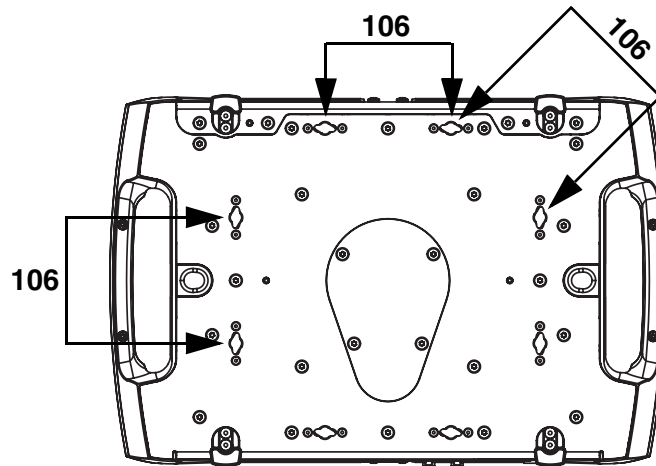
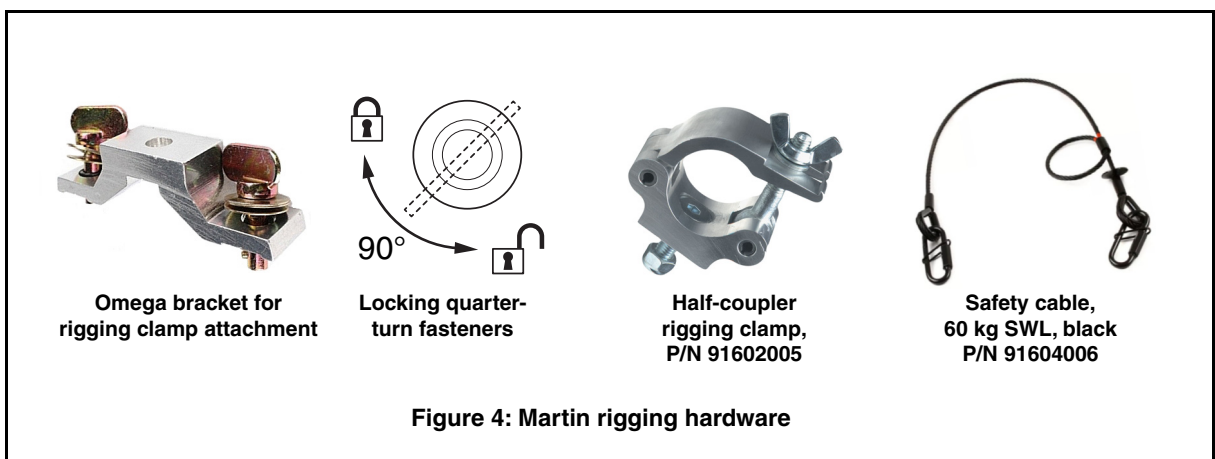

Figure 3: Omega bracket mounting points
Figure 4: Martin rigging hardware
The MAC Ultra Performance can be fastened to a surface such as a stage or clamped to a truss in any orientation using two omega brackets (see Figure 4) and rigging clamps. Clamps must be half-coupler type (see Figure 4) or equivalent type that fully encircles the truss unless the fixture is installed with the yoke hanging vertically downwards, in which case other clamp types that are approved for the supported weight may be used.
The four pairs of quarter-turn mounting points in the base accept 106 mm (4.17 in.) center-to-center omega brackets (see Figure 4) for rigging clamp attachment. The omega brackets can be fastened to the base parallel to the fixture's sides or diagonally (see Figure 3).
3. See Figure 3 on page 10. Align the first clamp and bracket with 2 mounting points in the base, and engage both the clamp bracket's quarter-turn fasteners in corresponding sockets in the base. See Figure 4. Turn the levers on the quarter-turn fasteners a full 90° clockwise to lock.